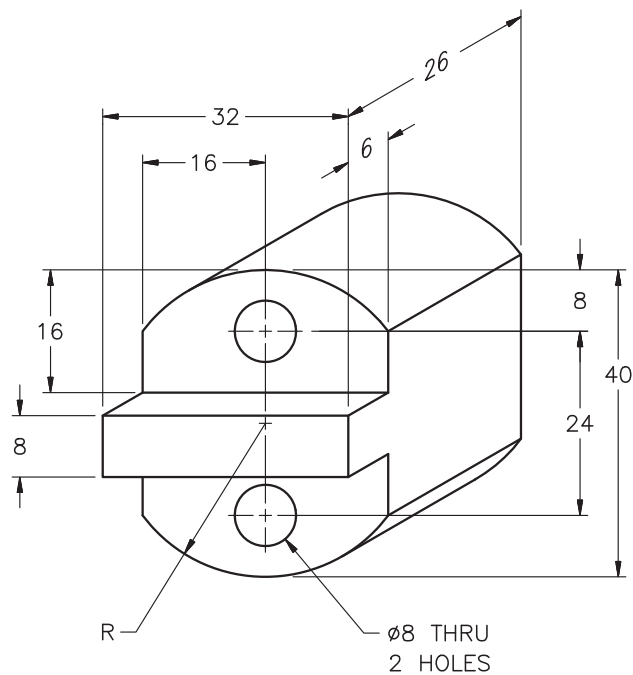

Fig. 27-13
6. Draw the front view of the shaft lock shown in Fig. 27-13. Create appropriate layers for the dimensions and linetypes. Use the **romans.shx** font to create a new text style named **roms** for the dimension text. Dimension the front view, placing the dimensions on layer **Dimensions**. Show all pertinent dimensions. Also, draw and dimension the right-side view. Resize the drawing area as necessary to accommodate the dimensions of the part. Refer to the file **shaftloc.dwg** (This drawing is located on the OLC for this book, in the Drafting & Design Problems section.)